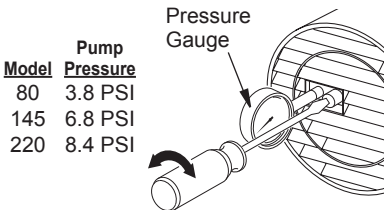

Figure 10 - Adjusting Pump Pressure
4. Adjust pressure. Turn relief valve to right to increase pressure. Turn relief valve to left to decrease pressure. See specifications in Figure 10 for correct pressure.